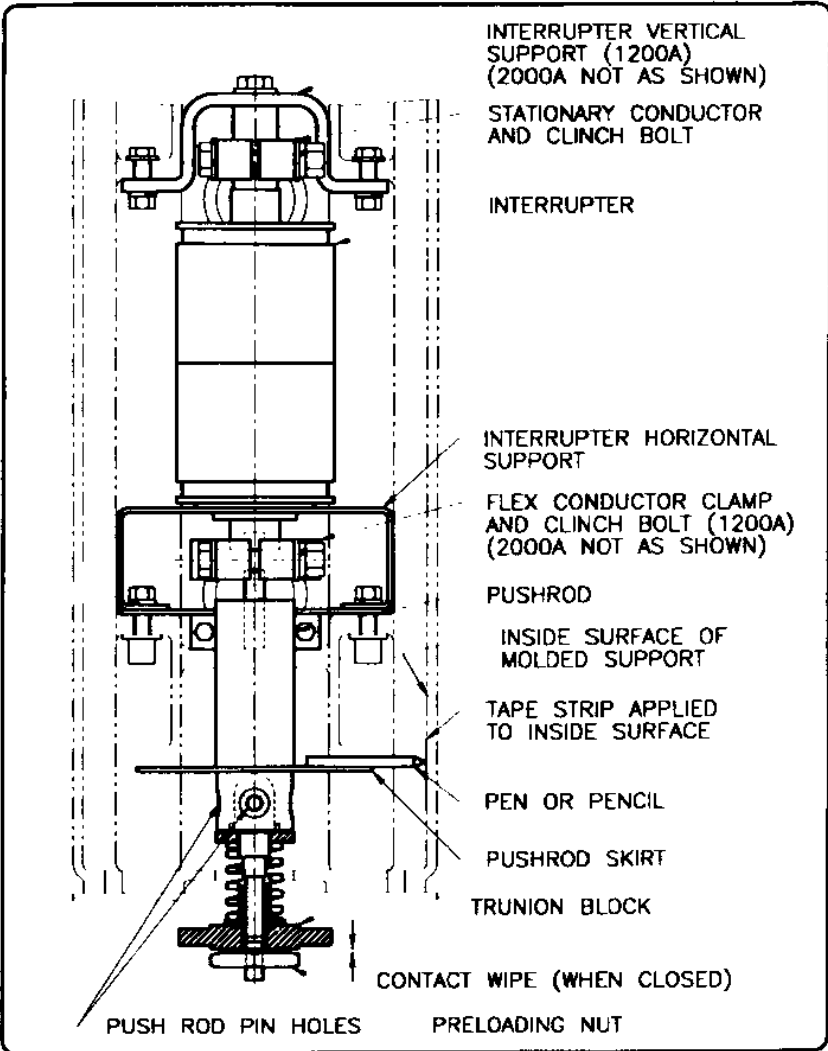

Fig. 5 - Contact Pressure
3. Contact Wipe (Fig. 5): The contact gap is set at the factory to .090"-.105" for the 750 MVA breakers, and .093"-.164" for the 500 MVA breakers, by adjusting the vertical position of the push rod and vacuum interrupter. This should not be changed in the field unless a change in contact sequence is required.
4. Contact Gap (Fig. 5): The contact gap is set at the factory to the range of .38"-.48". This value will increase as the contacts erode. An inspection of the contact gap insures that the breaker is fully opening, and the resulting gap is sufficient to withstand the applied voltage.
5. Contact Sequencing (Fig. 5). All three poles should make contact within two milliseconds of each other, at normal closing speeds, and have been adjusted so at the factory. An oscilloscope, oscillograph or other timing method may be used to check the two millisecond timing.